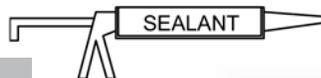

FIG. 1
OVERVIEW (FIG. 1 & 1-A)
1. Verify contents and familiarize yourself with the parts (FIG. 1).
BEFORE INSTALLING BASE MOUNT ON ROOF (FIG. 1-A).**
- a) The point of the base mount with the adjustable connector should face the front of the vehicle (Fig. 1).